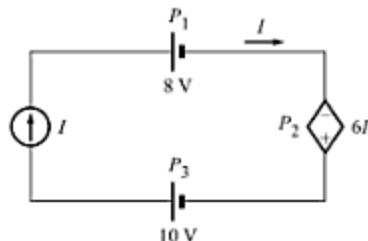

Fig. A-82
- A-41. For the circuit shown in Fig. A-82, determine the power absorbed P_1 , P_2 and P_3 for (a) $I = 2 \text{ A}$, and (b) $I = -3 \text{ A}$.